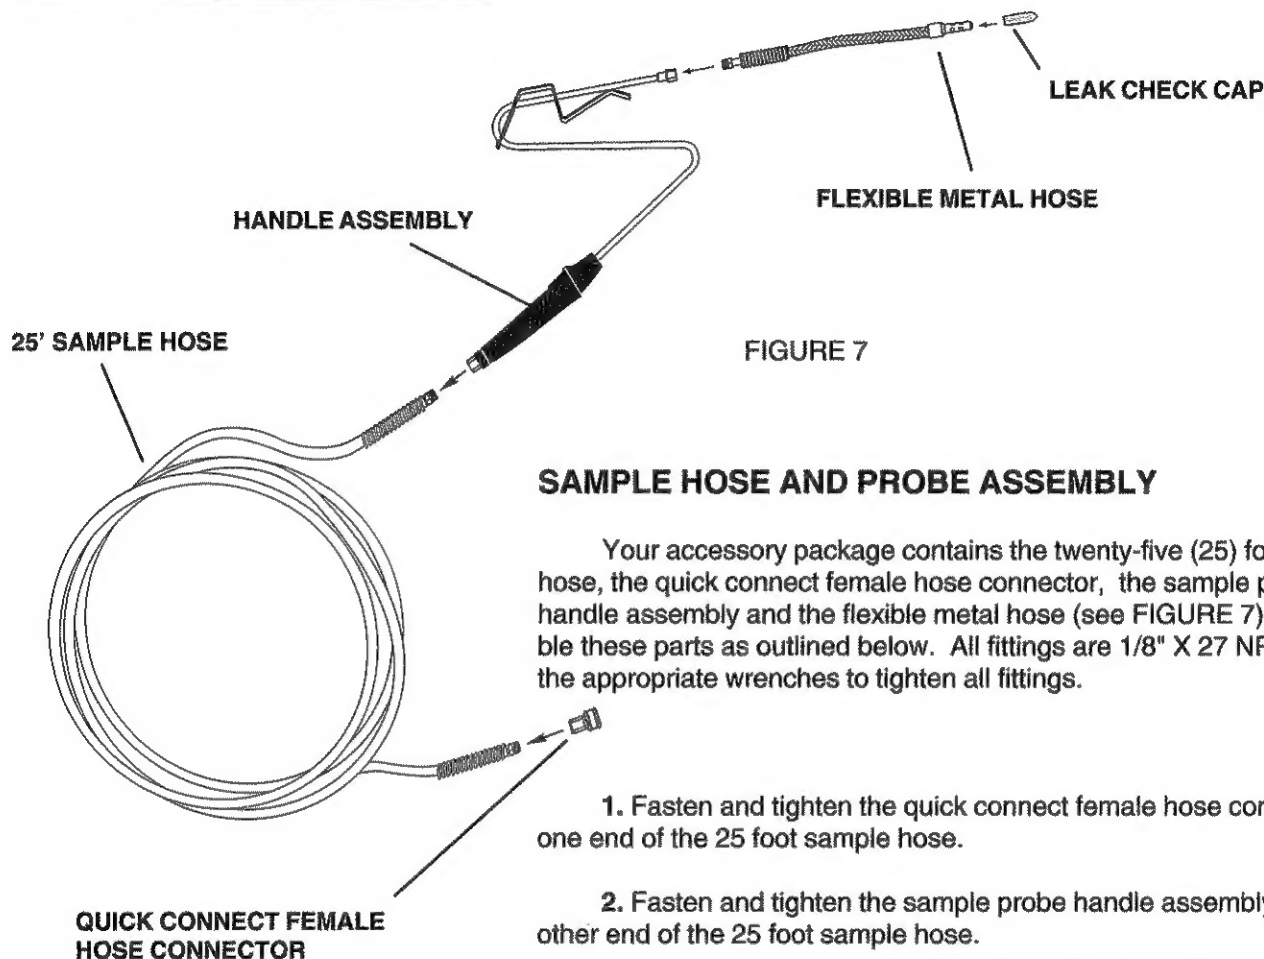

FIGURE 7
Your accessory package contains the twenty-five (25) foot sample hose, the quick connect female hose connector, the sample probe handle assembly and the flexible metal hose (see FIGURE 7). Assemble these parts as outlined below. All fittings are 1/8" X 27 NPT. Use the appropriate wrenches to tighten all fittings.